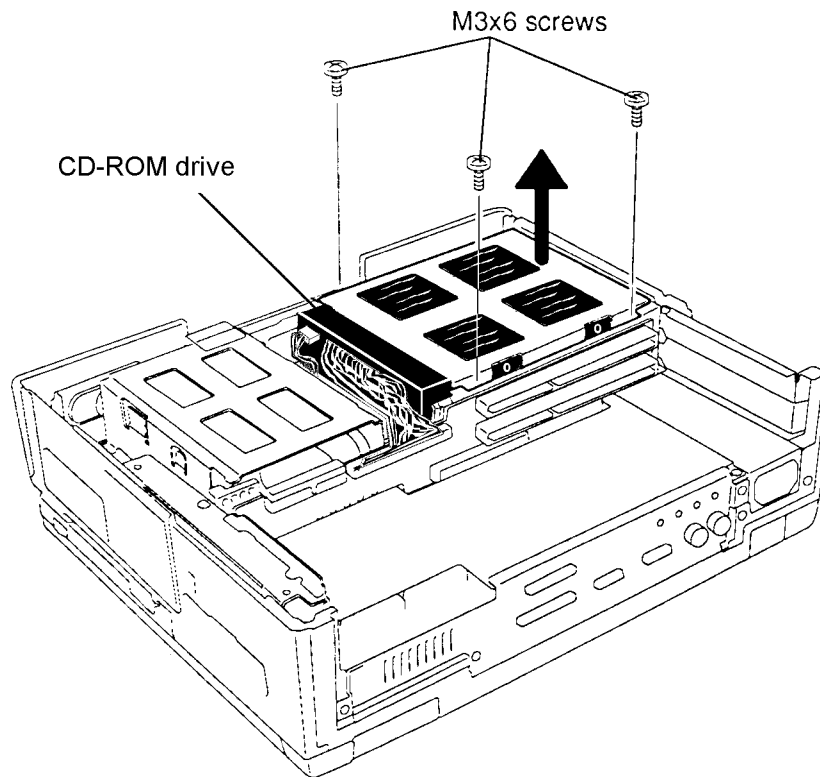

Figure 4-22 Removing the Screws on the CD-ROM Assembly
To remove the T6600C/CD or T6600C/CDV's CD-ROM drive, follow the steps below and refer to Figures 4-22 and 4-23.
3. Remove the **three M3x6 screws** securing the **CD-ROM drive** (Figure 4-22).
To install the T6600C/CD or T6600C/CDV's CD-ROM drive, follow the steps below and refer to Figures 4-22 and 4-23.
6. Secure the drive with **three M3x6 screws** (Figure 4-22.)